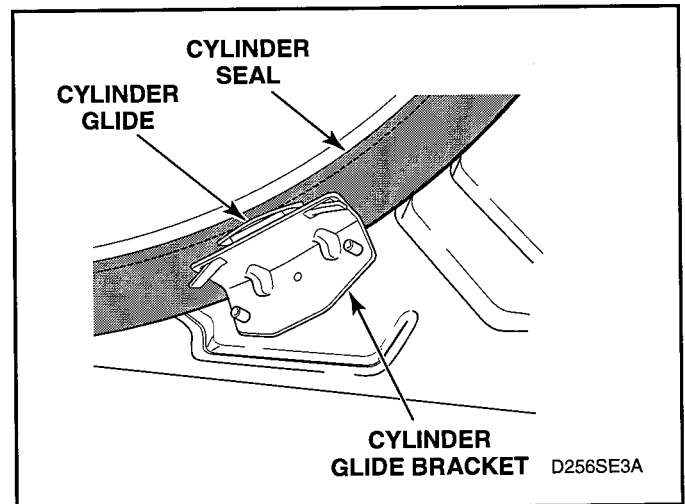

Figure 5-25
- Cylinder Glides and Glide Bracket (See figure 5-25.)